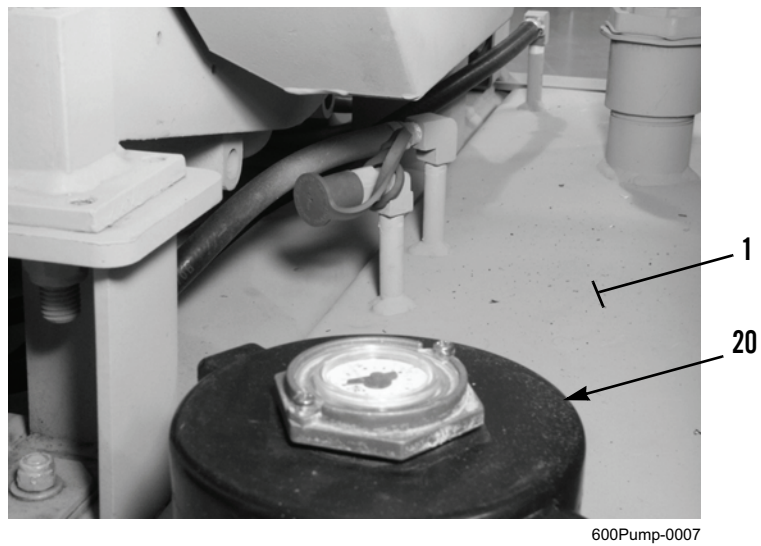

Figure 6. Fuel Tank Gauge.
8. Remove fuel tank cap/gauge (Figure 6, Item 20) from fuel tank (Figure 6, Item 1).